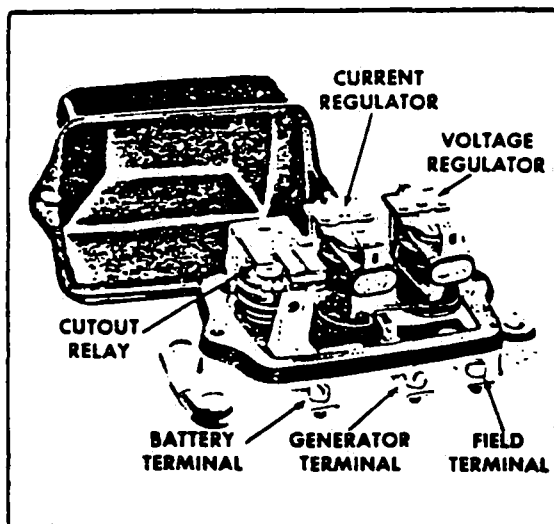

Figure 11-4. Current/Voltage Regulator
**11-25. DESCRIPTION OF REGULATOR.** The regulator shown in Figure 11-4 consists of a cutout relay, a voltage regulator and a current regulator unit. The cutout relay closes the generator to battery circuit when the generator voltage is sufficient to charge the battery, and it opens the circuit when the generator slows down or stops. The voltage regulator unit is a voltage-limiting device that prevents the system voltage from exceeding a specified maximum and thus protects the battery and other voltage-sensitive equipment. The current regulator unit is a current-limiting device that limits the generator output so as not to exceed its rated maximum.
a. The cutout relay (Refer to Figure 11-4) has two windings, a series winding of a few turns of heavy wire and a shunt winding of many turns of fine wire. The shunt winding is connected across the generator so that generator voltage is impressed upon it at all times. The series winding is connected in series with the charging circuit so that all generator output passes through it. The relay core and windings are assembled into a frame. A flat steel armature is attached to the frame by a flexible hinge so that it is centered just above the stationary contact points. When the generator is not operating, the armature contact points are held away from stationary points by the tension of a flat spring riveted on the side of the armature.
a. The voltage regulator (Refer to Figure 11-4) has two windings assembled on a single core, a shunt winding consisting of many turns of fine wire which is shunted across the generator, and a series winding of a few turns of relatively heavy wire which is connected in series with the generator field circuit when the regulator contact points are closed.
a. The current regulator (Refer to Figure 11-4.) has a series winding of a few turns of heavy wire which carries all generator output. The winding core is assembled into a frame. A flat steel armature is attached to the frame by a flexible hinge so that it is just above the core. The armature has a contact point which is just below a stationary contact point. When the current regulator is not operating, the tension of a spiral spring holds the armature away from the core so that the points are in contact. In this position the generator field circuit is completed to ground through the current regulator contact points in series with the voltage regulator contact points.